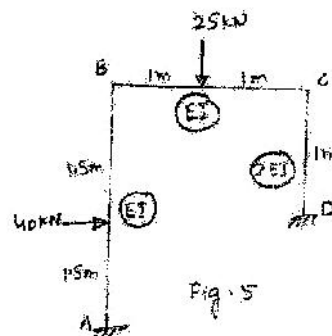

Fig. 5
14. Analyze the plane frame shown in fig. 5 using stiffness matrix approach. Also draw BMD.